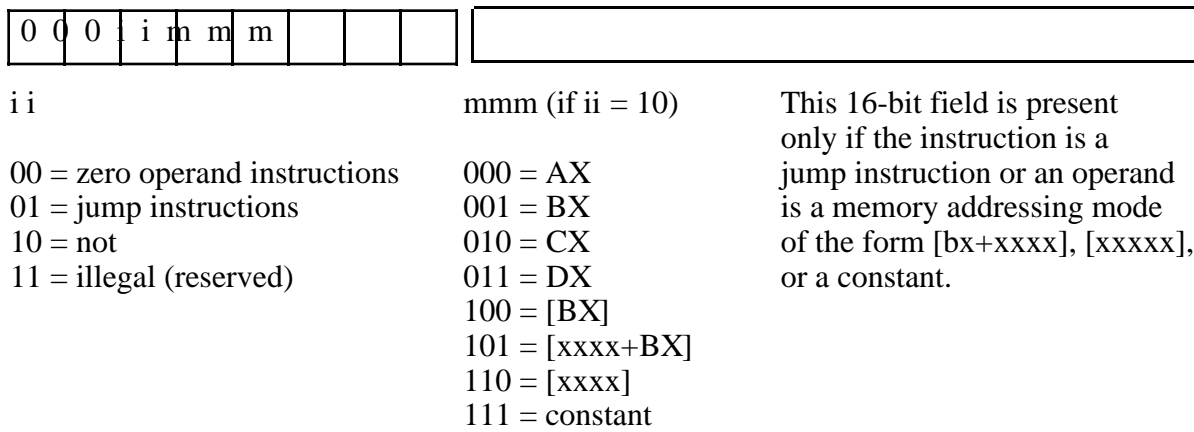
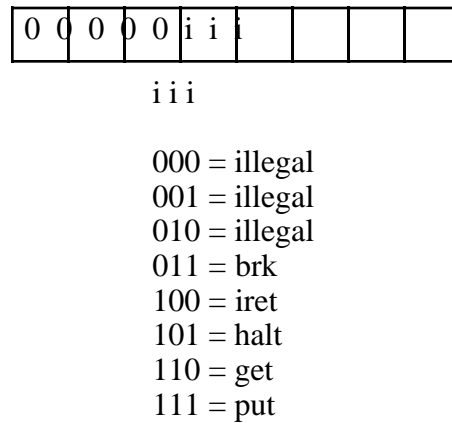
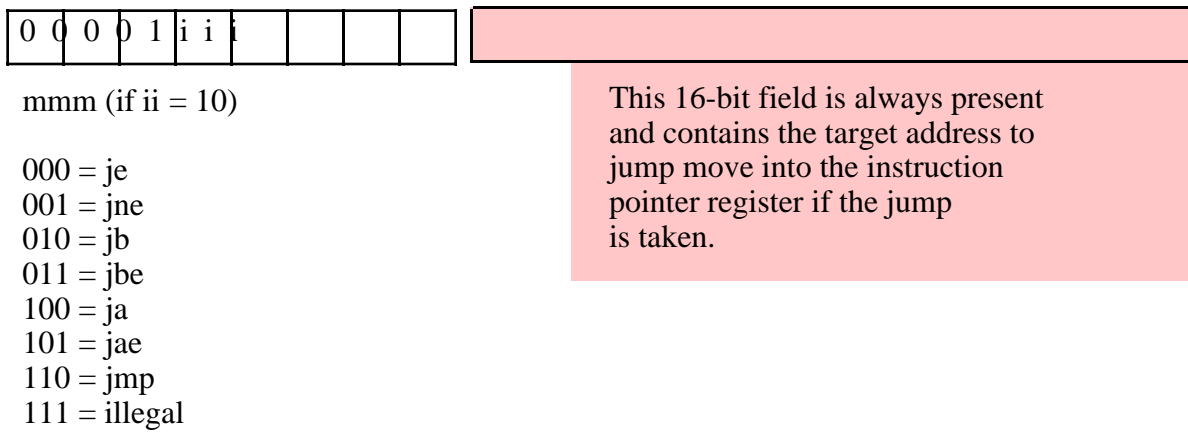

Figure 5.4 Single Operand Instruction Encodings
Figure 5.5 Zero Operand Instruction Encodings
Figure 5.6 Jump Instruction Encodings
The *special* opcode allows the x86 CPU to expand the set of available instructions. This opcode handles several zero and one-operand instructions as shown in Figure 5.4 and Figure 5.5.
There are four one-operand instruction classes. The first encoding (00) further expands the instruction set with a set of zero-operand instructions (see Figure 5.5). The second opcode is also an expansion opcode that provides all the Y86 *jump* instructions (see Figure 5.6). The third opcode is the NOT instruction. This is the bitwise logical not operation that inverts all the bits in the destination register or memory operand. The fourth single-operand opcode is currently unassigned. Any attempt to execute this opcode will halt the processor with an illegal instruction error. CPU designers often reserve unassigned opcodes like this one to extend the instruction set at a future date (as Intel did when moving from the 80286 processor to the 80386).
The last group of instructions, the zero operand instructions, appear in Figure 5.5. Three of these instructions are illegal instruction opcodes. The BRK (break) instruction pauses the CPU until the user manually restarts it. This is useful for pausing a program during execution to observe results. The IRET (interrupt return) instruction returns control from an interrupt service routine. We will discuss interrupt service routines later. The HALT program terminates program execution. The GET instruction reads a hexadecimal value from the user and returns this value in the AX register; the PUT instruction outputs the value in the AX register.
The Y86 conditional jump instructions also use a special encoding. These instructions are always three bytes long. The first byte (the opcode) specifies which conditional jump instruction to execute and the next two bytes specify where the CPU transfers if the condition is met. There are seven different Y86 jump instructions, six conditional jumps and one unconditional jump. These instructions set $mmm=\%000$, $rr=\%01$, and use the mmm field to select one of the seven possible jumps; the eighth possible opcode is an illegal opcode (see Figure 5.6). Encoding these instructions is relatively straight-forward. Once you pick the instruction you want to encode, you've determined the opcode (since there is a single opcode for each instruction). The opcode values fall in the range \$08..\$0E (\$0F is the illegal opcode).
The last group of instructions, the zero operand instructions, are the easiest to encode. Since they have no operands they are always one byte long and the instruction uniquely specifies the opcode for the instruction. These instructions always have *iii*=%000, *rr*=%00, and *mmm* specifies the particular instruction opcode (see Figure 5.5). Note that the Y86 CPU leaves three of these instructions undefined (so we can use these opcodes for future expansion).